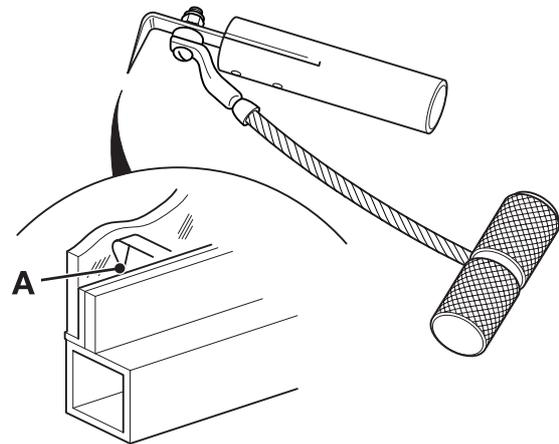

Fig 3. Cut-out Knife
- c Cut-out Knife.** ⇒ Fig 3. \(□ B-51\). The cut-out knife can be used as a left handed or right handed tool.